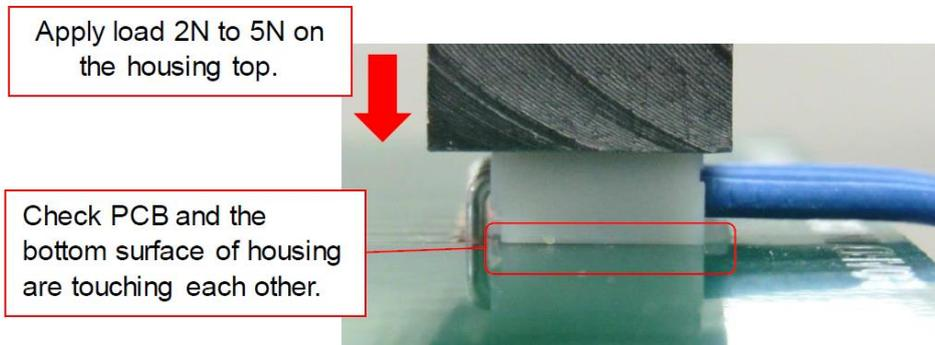

Fig.25 Pressing load
- Recommend that ensure the PCB and the bottom surface of the housing are touching each other in applying the load of 2N to 5N. (see Fig.25)